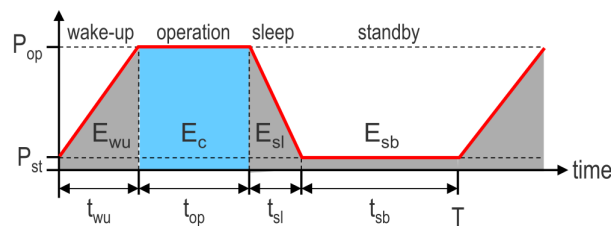

Figure 1: Scheme for alternating active tasks and long sleep periods.
- The power can be aggressively reduced by duty cycling the IoT node operation, alternating active tasks and long sleep periods as depicted in Fig. 1, with periodicity set by the wake-up cycle T .